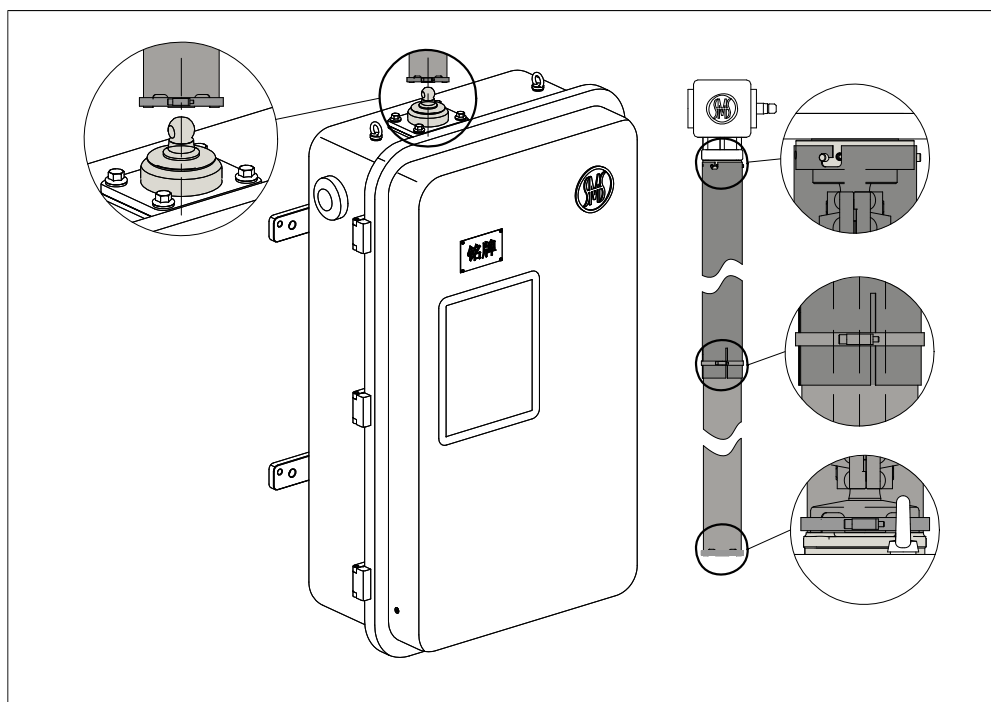

Figure 8-12 Install the vertical guard
3. Slide the vertical guard upward onto the lower end of the bevel gearbox, ensuring it sleeves over the bushing. Align the three grooves on the guard with the three cylindrical pins. Rotate the guard until the pins snap into the grooves (see Figure 8-12).
4. Slide the thinner lower guard onto the output shaft of the MDU (see Figure 8-12).
5. After positioning both guards in place, secure them with two clamps (see Figure 8-12).